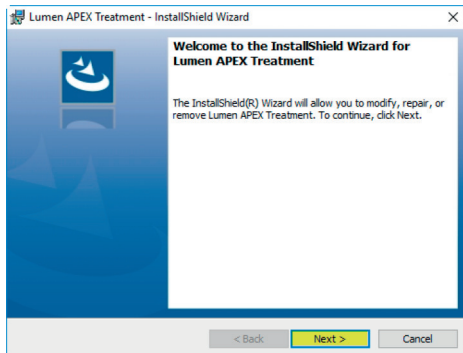

Fig. 11
3. The next screen allows you to identify the location on the computer's hard drive where the program will be installed. The default option is *program files*. If you would like to modify this, click the **Change...** button and select the directory where you would like the program to be installed (Fig. 11).